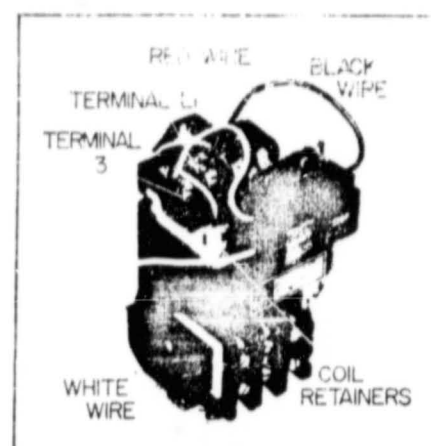

Figure 2 - CR205X120N installed
3. Begin disassembly of contactor by pressing slightly on coil and pulling up on coil retainers; motion also being away from coil (see Figure 2).
9. Connect black wire to "L1". Make connection at terminal screw provided. (see Figure 2).